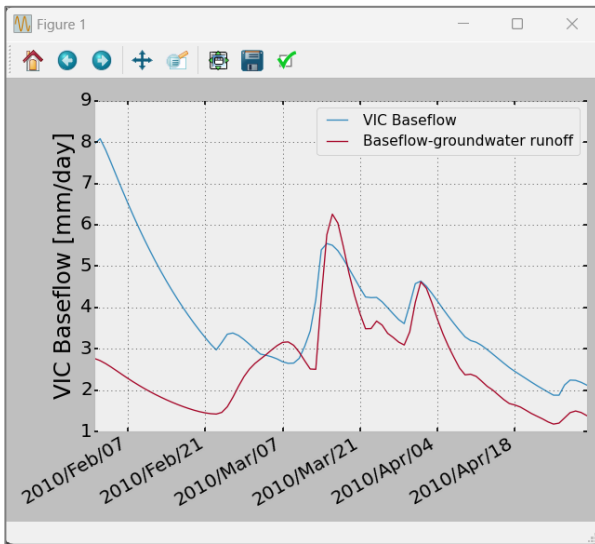

Figure 35. Resulting subsurface baseflow from the VIC simulation of the French Creek in PA.
- Results from the final workflow are shown in Figures 35 and 36.